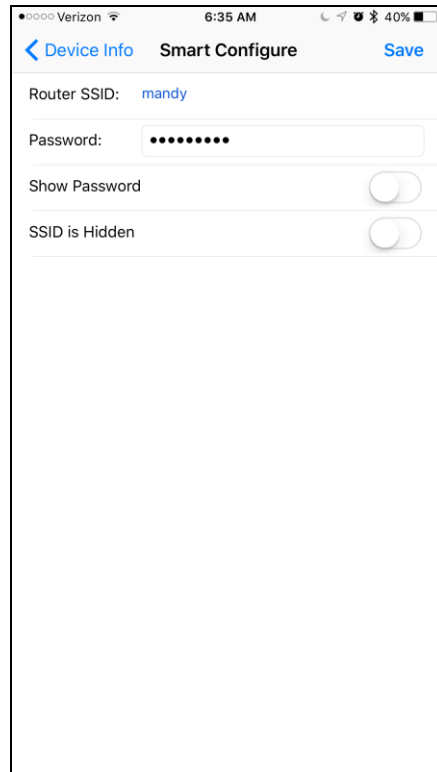

Figure 27
3. Make sure your mobile device is connected to your WiFi network. Enter the password for your router, and select **Save**, as shown in Figure 27.